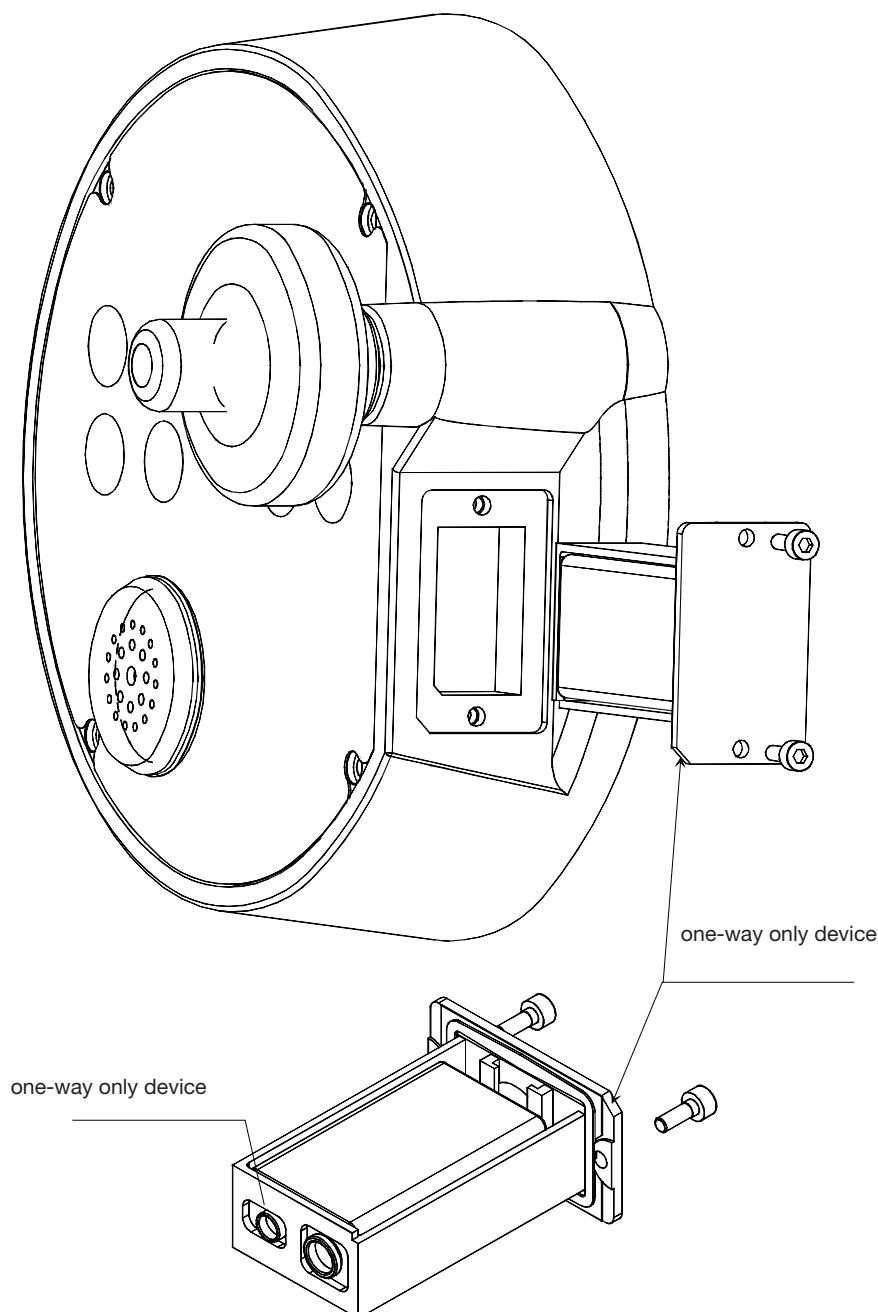
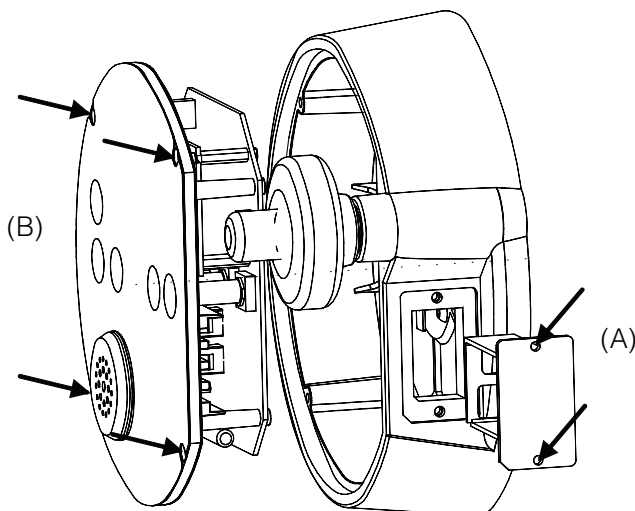

Figure 10-4
Figure 10-11
- Unscrew the 2 screws of the battery holder using the 2,5 mm Hex Allen key which is located on the carrying case. See Figure 10-4.
- Change the battery (one-way only device). See Figure 10-4.
- Unscrew with the 2.5 Allen key the 2 screws (A) of the battery holder and pull it out as shown on Figure 10-11.
- Unscrew with the 2.5 Allen key the 4 screws (B) of the display unit and pull it gently out of the electronic box, as shown on Figure 10-11.
- Put back the new display unit in the electronic box; tighten the 4 screws (B) of Figure 10-11.
- Reinstall the battery holder with the 2 screws (A) of Figure 10-11. Refer to Figure 10-4 page 40.